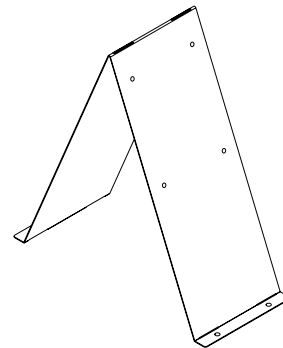

Figure 10
2. Bend the standoffs as shown in Figure 10.